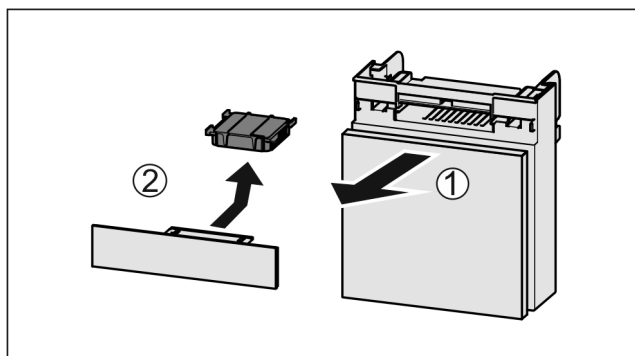

Fig. 115
- Pull out the compartment Fig. 115 (1).
- Remove the carbon filter Fig. 115 (2).